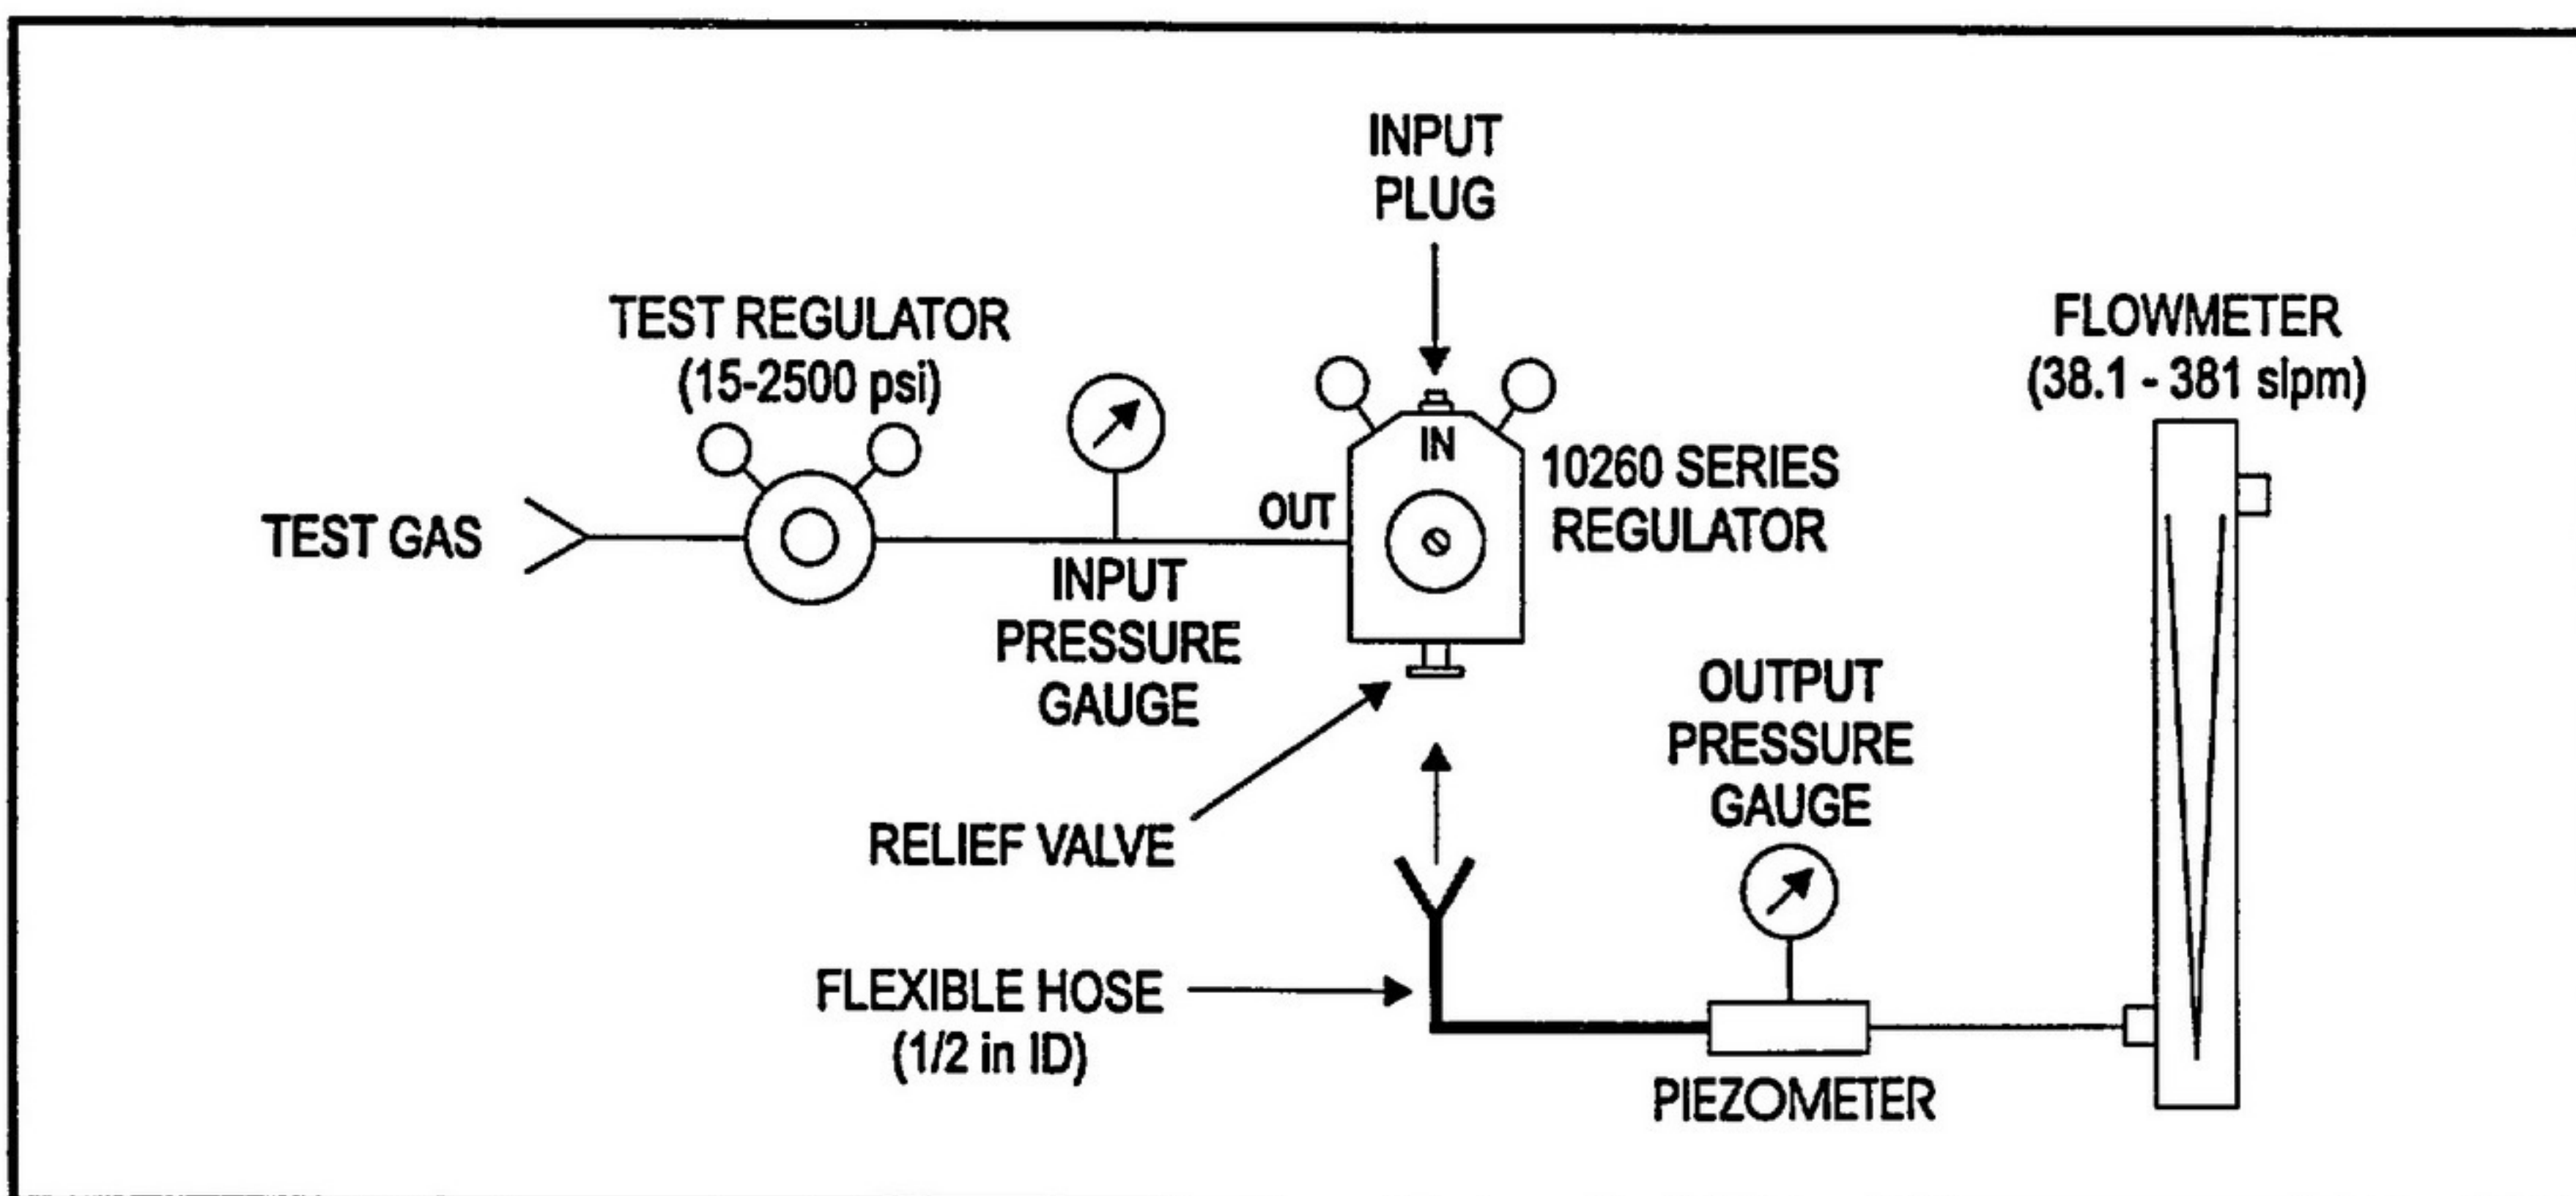

Figure 102: Relief Valve Test Set-up
- (1) Attach regulator assembly to the test equipment as shown in Figure 102.
- (2) Attach flowmeter, piezometer, flexible hose, and output pressure gauge to relief valve on regulator.
- (3) Adjust test regulator to have a flow indication of 200 lpm (NTPD) on flowmeter.
- (4) Input pressure gauge must be less than 140 psig / 0.97 MPa (160 psig / 1.10 MPa for 10260-06 and 10260-08) for a flow rate of 200 lpm.
- (5) Adjust test regulator to lower the input pressure to 90 psig / 0.63 MPa (110 psig / 0.76 MPa for 10260-06 and 10260-08) as shown on input pressure gauge. Remove flowmeter, piezometer, flexible hose, and output pressure gauge.
- (6) Apply leak test solution to hole in relief valve cap. Relief valve shall have re-seated. No leakage of test gas is allowed through relief valve.
- (7) Adjust test regulator to 100 psig / 0.69 MPa (120 psig / 0.83 MPa for 10260-06 and -08 regulators) as shown on input pressure gauge.
- (8) Apply leak test solution (refer to Table 102) to hole in relief valve cap. No leakage of test gas is allowed through relief valve.
- (9) Adjust test regulator to 110 psig / 0.76 MPa (130 psig / 0.89 MPa for 10260-06 and -08 regulators) as shown on input pressure gauge.
- (10) Apply leak test solution to hole in relief valve cap. Relief valve shall show leakage at this pressure.
- (11) Adjust test regulator to 0 psig (0 MPa) as shown on input pressure gauge.